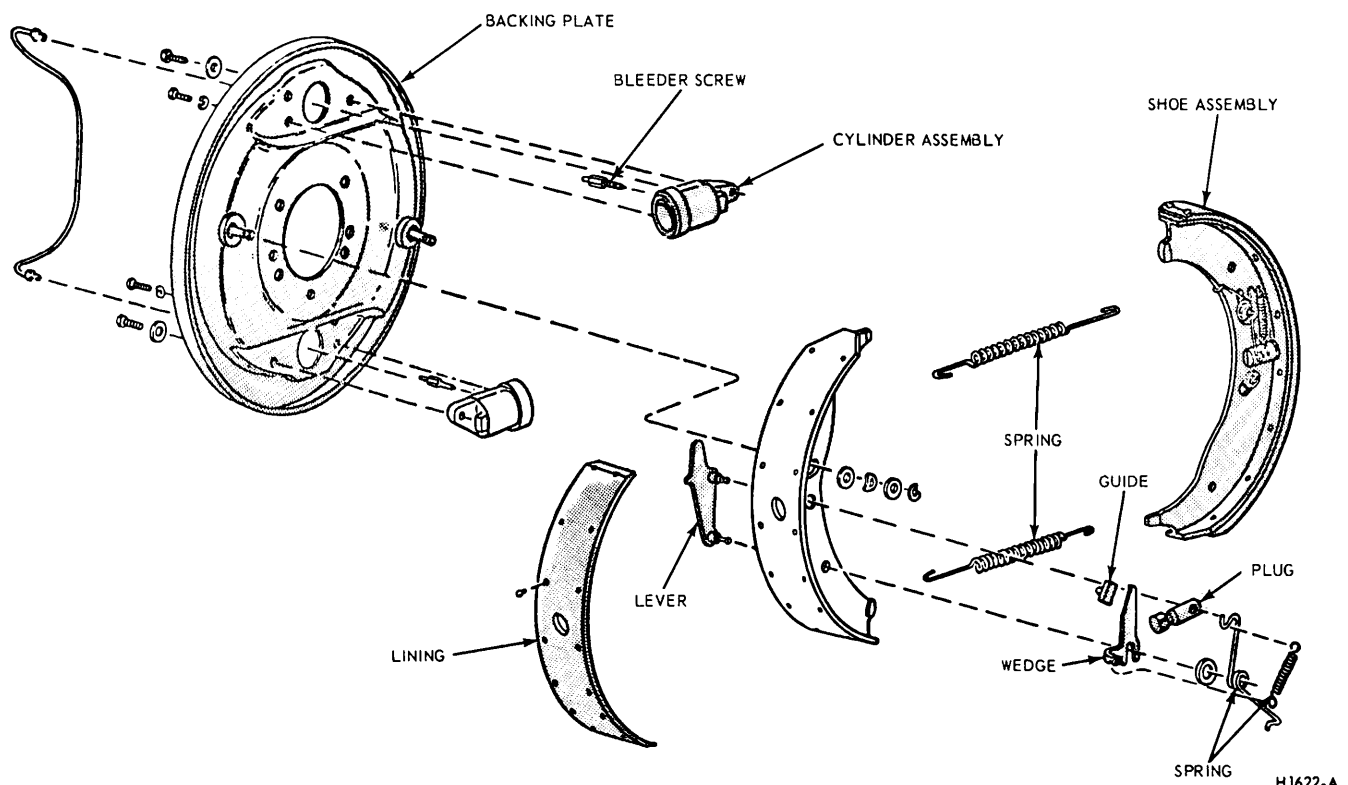

FIG. 23—Two-Cylinder Brake Shoe (Wagner) Front—Disassembled View
2. Remove both brake shoe return springs (Fig. 23).
7. Place a shoe assembly on the backing plate with the shoe guide stud inserted through the hole in the shoe web. Locate the shoe assemblies to the wheel cylinders (Fig. 23).